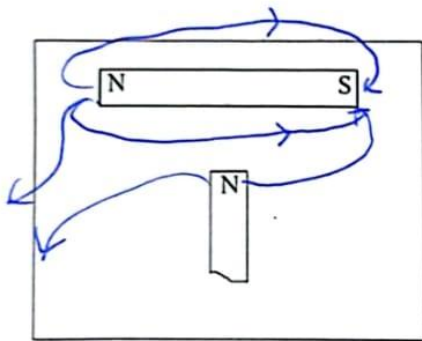

Figure 1.7
2.2.1 Arrange the two magnets in Figure 1.7, placing a piece of cardboard/paper (or clear perspex sheet) on top of the arrangement. Sprinkle the iron filings evenly and lightly over the cardboard/paper and gently tap the cardboard/paper until the filings form a pattern.